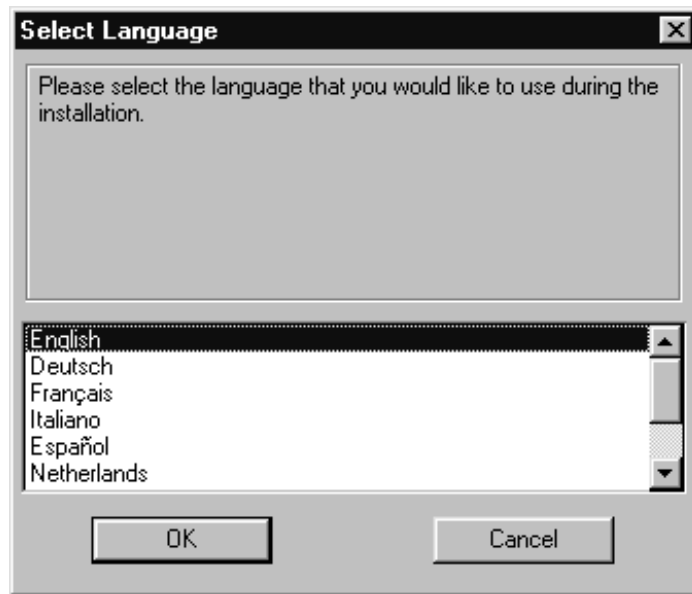

Figure 2: Selecting a language
4. Type [D:\START.EXE] in the command line and click on 'OK' (Figure 2) to start the installation.